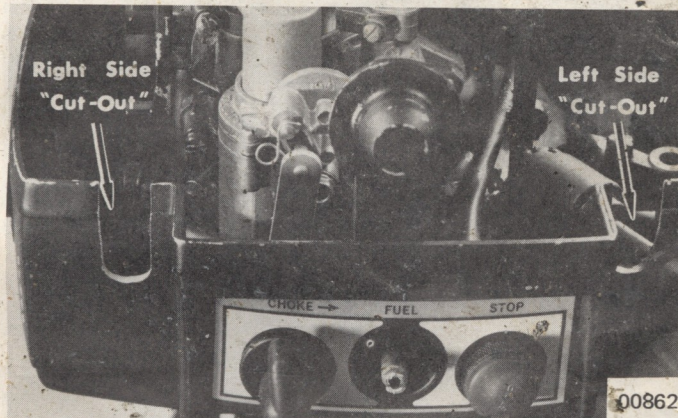

Figure 1. Knock Out Plate Location, 1969 and Prior Models
2. For 1969 and prior models, see Figure 1. Knock out or cut out right and left side areas of bottom cowl as shown.